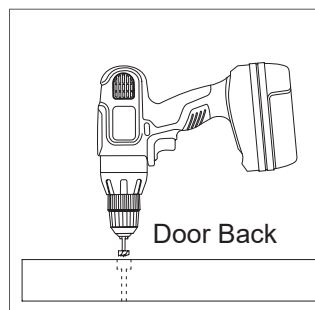

Figure 4
7. Turn the door over and using a 1-1/8" Forstner bit\*, drill a 7/16" deep hole into each pilot hole (Figure 4).